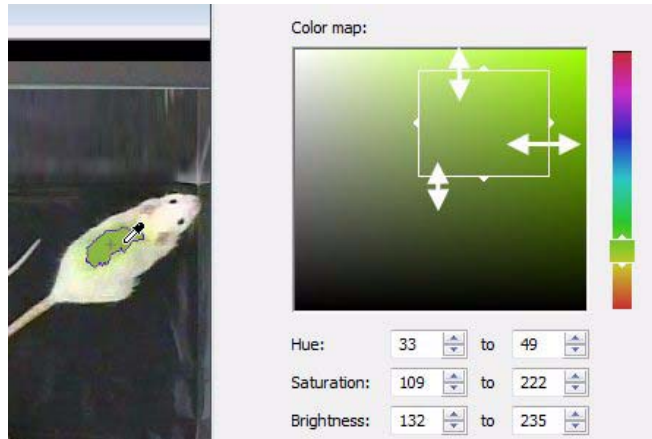

Figure 7.3 The color of the marker after fine-tuning the color settings. Most of the marker is now selected as indicated by the black outline.
4. Fine-tune the color settings by adjusting the **Hue**, **Saturation** and **Brightness** in the **Identification [subject role name]** window. Change the range of color settings by changing the numbers or by resizing the **Hue** box on the vertical color bar, or resizing/moving the box in the color map (horizontally to adjust **Saturation**, vertically to adjust **Brightness**). As a result, the outline covers (almost) the complete marker (see Figure 7.3).